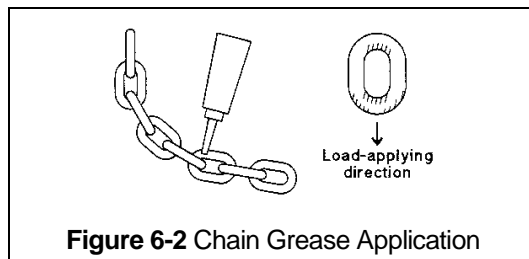

Figure 6-2 Chain Grease Application
6.2.3 Apply Harrington lubricating grease (Part No. ER1BS1951) or an equivalent to industrial general lithium grease, NLGI No. 0, to the bearing surfaces of the load chain links as indicated by the shaded areas in Figure 6-2. Also apply the grease to the areas of the load chain (shaded areas in Figure 6-2) that contact the load sheave. Insure that the grease is applied to the contact areas in the load sheave pockets.